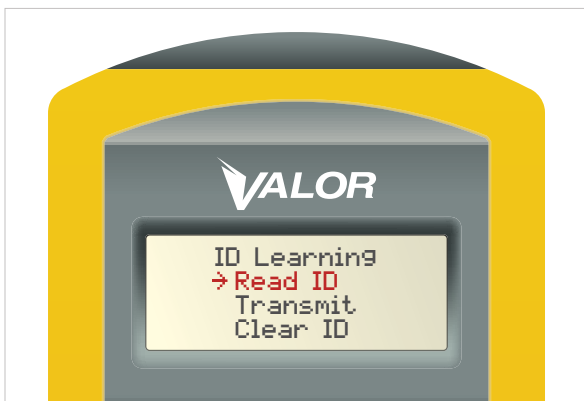

Figure 7
1. In the “ID Learning” menu, select “Read ID.” (Figure 7)